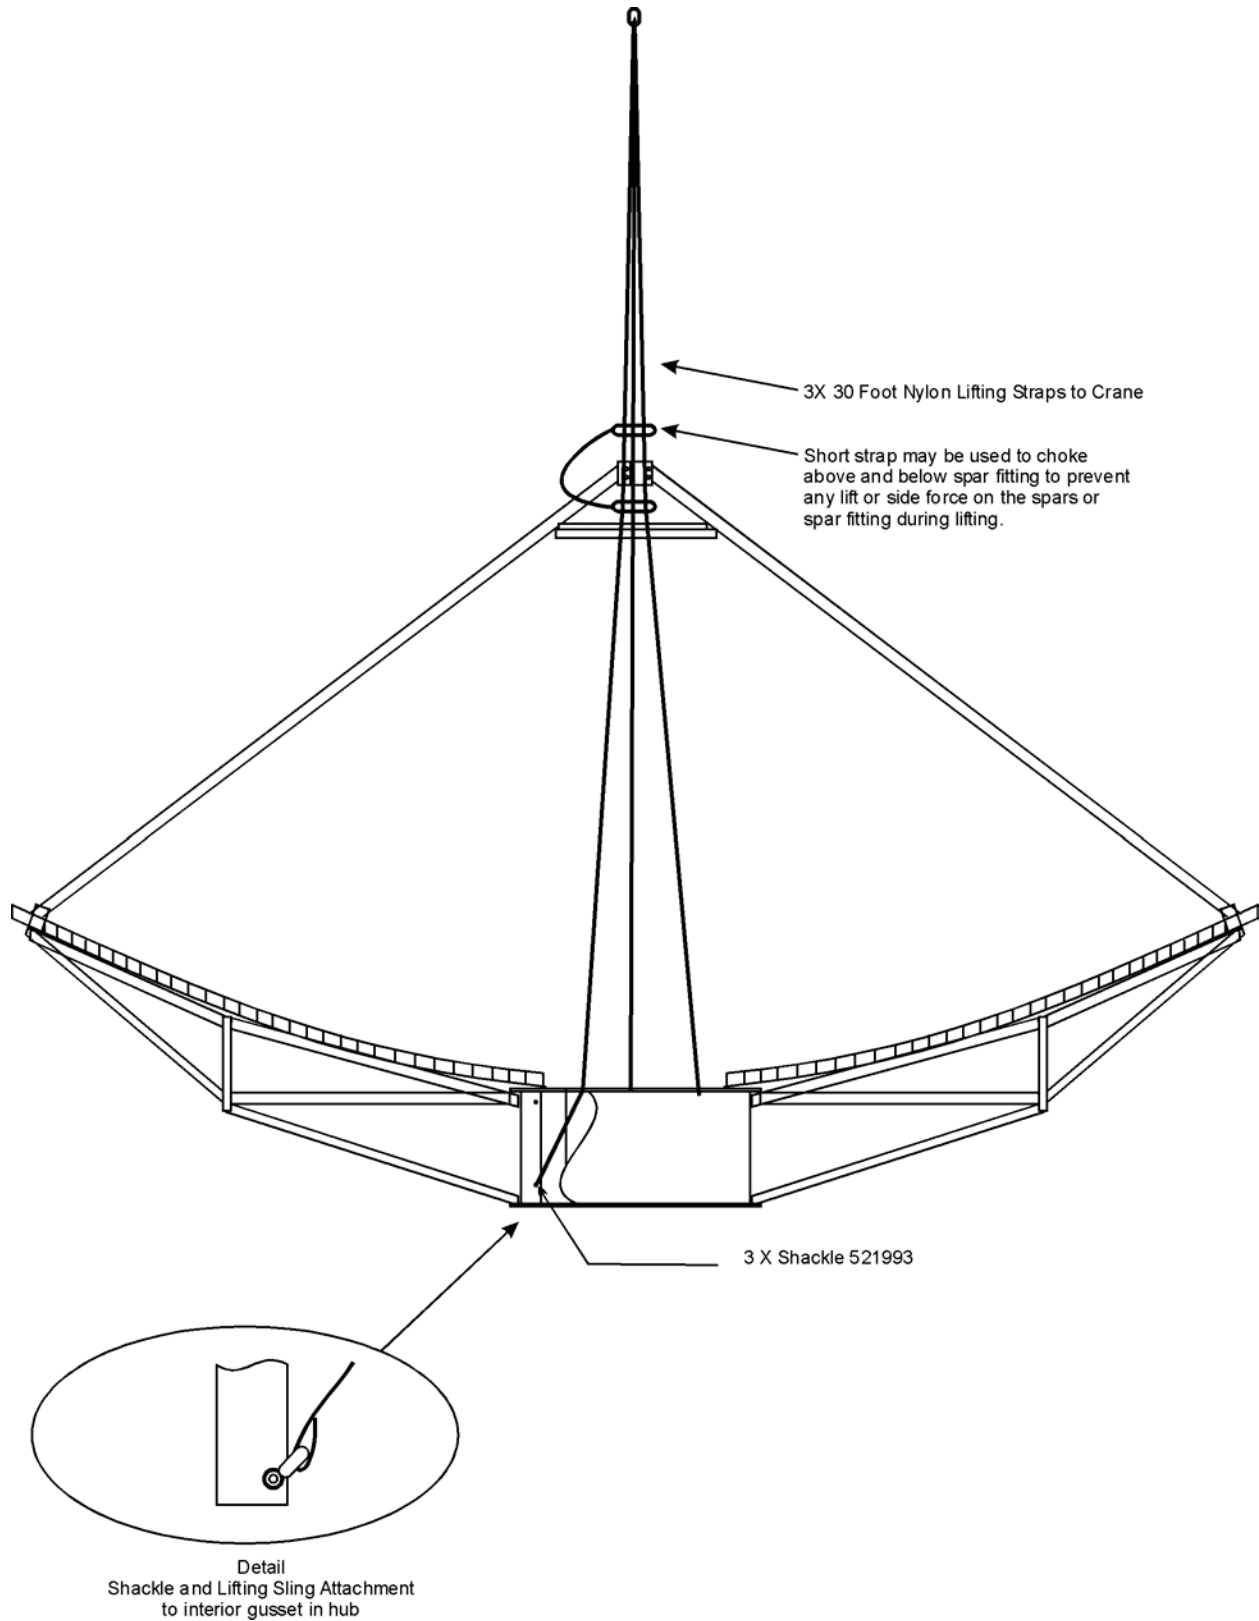

Figure 2-5. Hoisting Reflector and Spars
2. Prior to lifting the reflector and hub, install 0.5 inch eye bolt (item 39) and (Qty 2) support plates (item 19) to hub assembly with 0.5 inch washers and nut as shown on sheet 8 of drawing 519054.
3. Attach three 30 foot nylon lifting straps using three shackles (part no. 521993) to antenna hub as shown in Figure 2-5 for lifting the reflector assembly with a crane. Use short straps, as shown in Figure 2-5, to choke lifting straps near the subreflector mount and spars to prevent side forces on spars during lifting.
4. Lift the assembled reflector and position hub over mount as shown in sheets 8 and 9 of Drawing 519054. Install (Qty 2) elevation pivot pins (item 11), with the tapered end toward the center of mount, through bearing, spacers, and washers.